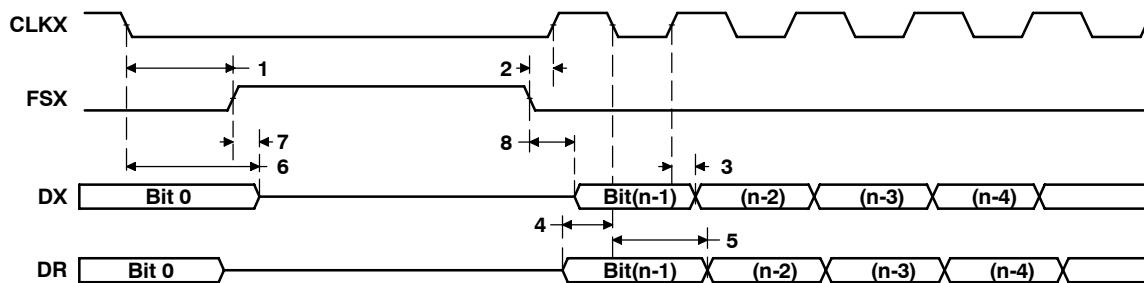

Figure 36. McBSP Timing as SPI Master or Slave: CLKSTP = 10b, CLKXP = 0
**timing requirements for McBSP as SPI master or slave: CLKSTP = 10b, CLKXP = 0†‡ (see Figure 36)**
**switching characteristics over recommended operating conditions for McBSP as SPI master or slave: CLKSTP = 10b, CLKXP = 0†‡ (see Figure 36)**